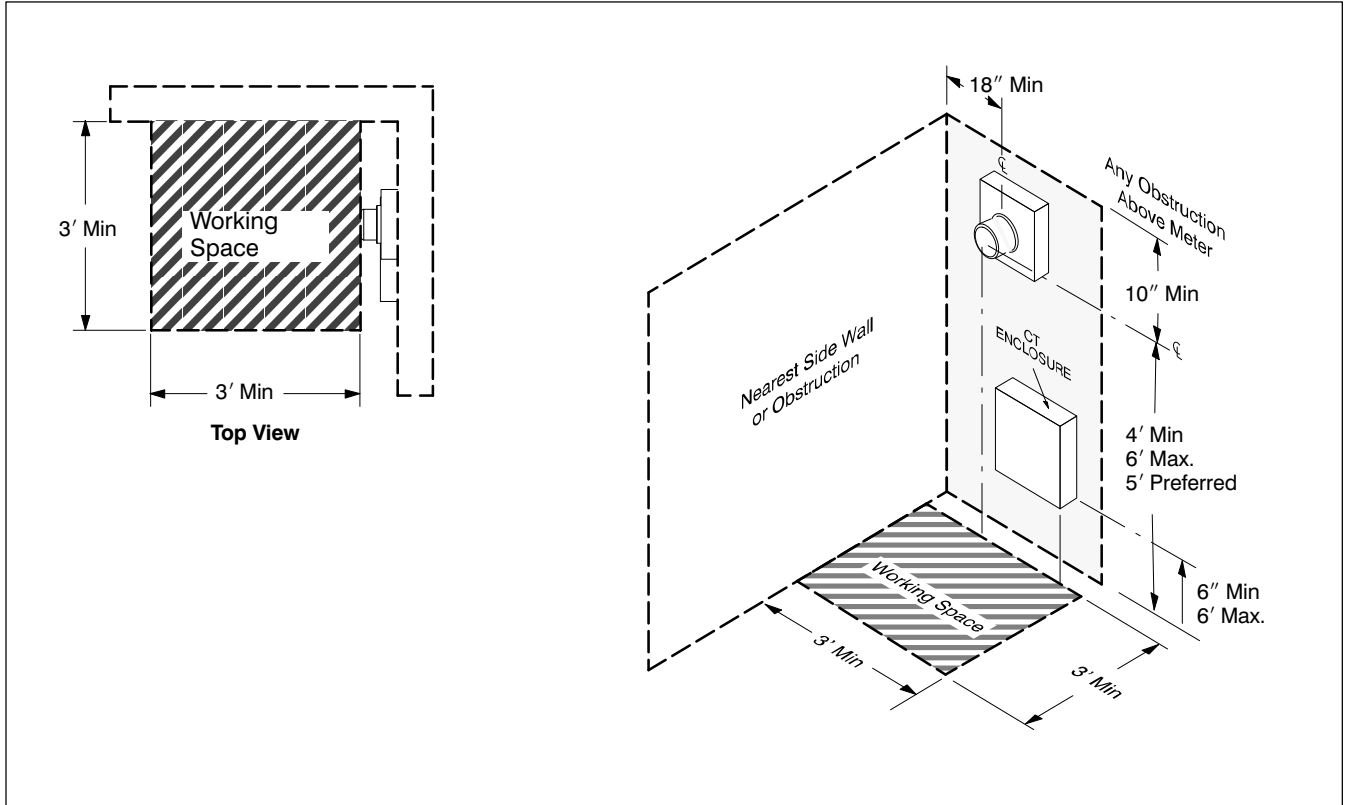

Figure 25 Meter base/socket minimum clearances
- A working space of 36 inches wide by 36 inches deep (see *Figure 25*) is required around the meter. This working space is to be kept clear of any obstructions including landscaping.
- There shall be a minimum horizontal and vertical clearance of 10 inches between the center of the electric meter and any obstruction (see *Figure 25*).